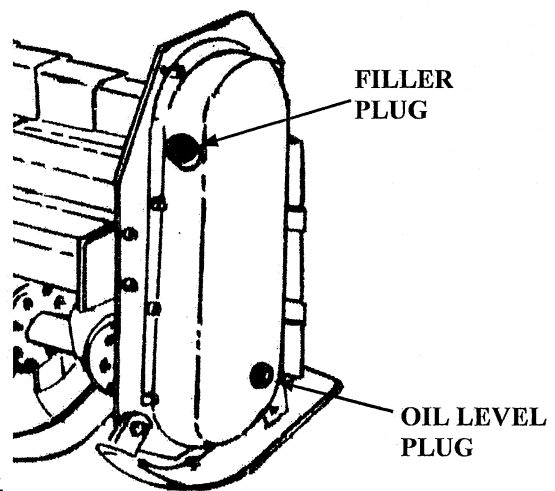

FIG. 4
- Check oil level in the chain drive by unscrewing the oil level plug (fig. 4). If needed to add oil, unscrew the filler plug (fig. 4) and fill in the cover until it starts running out the level hole.